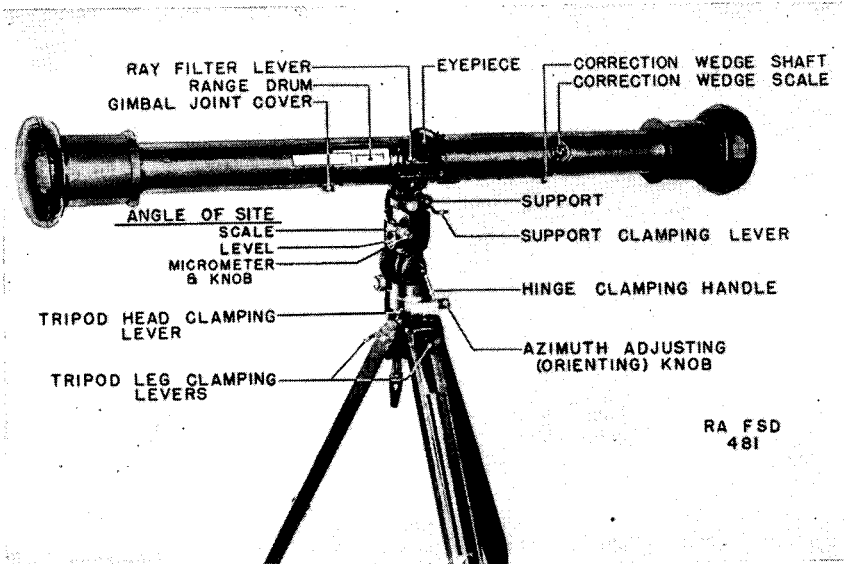

FIGURE 53.—Range finder, M1916, 1-m base, rear view.
*d. Care and preservation.*—(1) See paragraph 58 for general instructions pertaining to care and preservation of instruments.
(2) When not in use keep leaf sight down clamping compass dial, and clinometer wedge knob depressed clamping clinometer dial, thus preventing injury to and excessive wear of their respective pivots.
(3) Observe particular care to prevent bending of the leaf sight parts.
(4) No lubrication of the instrument is required.
**54. Finder, range, 1-m base, M1916.**—This instrument (figs. 53 and 54) is used primarily for measuring distance by triangulation. Indications of azimuth and angle of site are also provided.
*b. Operation.*—(1) To set up the instrument, securely clamp tripod legs at desired length, embed them firmly in the ground, and tighten leg clamping levers. It is necessary that azimuth scale is in a substantially horizontal plane. Place range finder on mount and latch it in position. Position longitudinal axis horizontally and clamp with hinge clamping handle. Procedure for a vertical base line is described in (5) below.